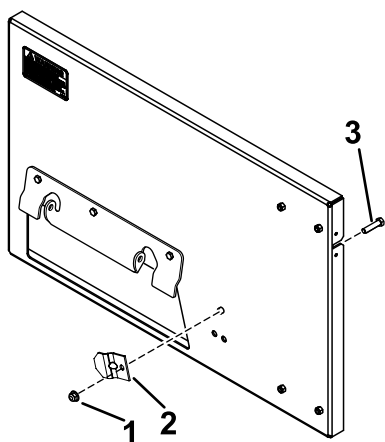

Рисунок 3
3. Install the clamp to the bagger and adapter with a bolt (3/8 x 3/4 inch) and locknut (3/8 inch); Рисунок 3.